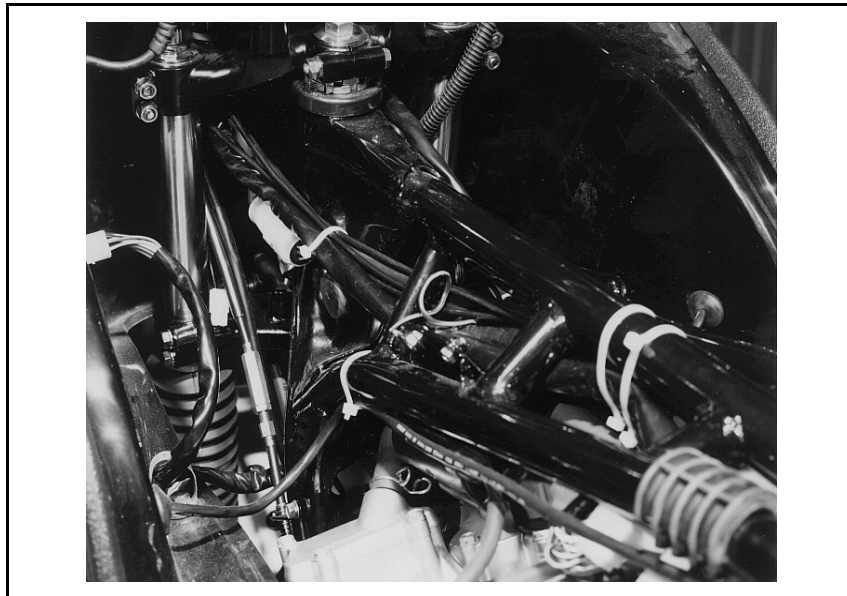

Figure 7-3: Triangular Frame Assembly
5. Refer to Figure 7-3 and route the cables through the center of the triangular frame assembly to the area at the rear of the control unit. The cable may be routed along side existing cables and secured to them with cable ties.